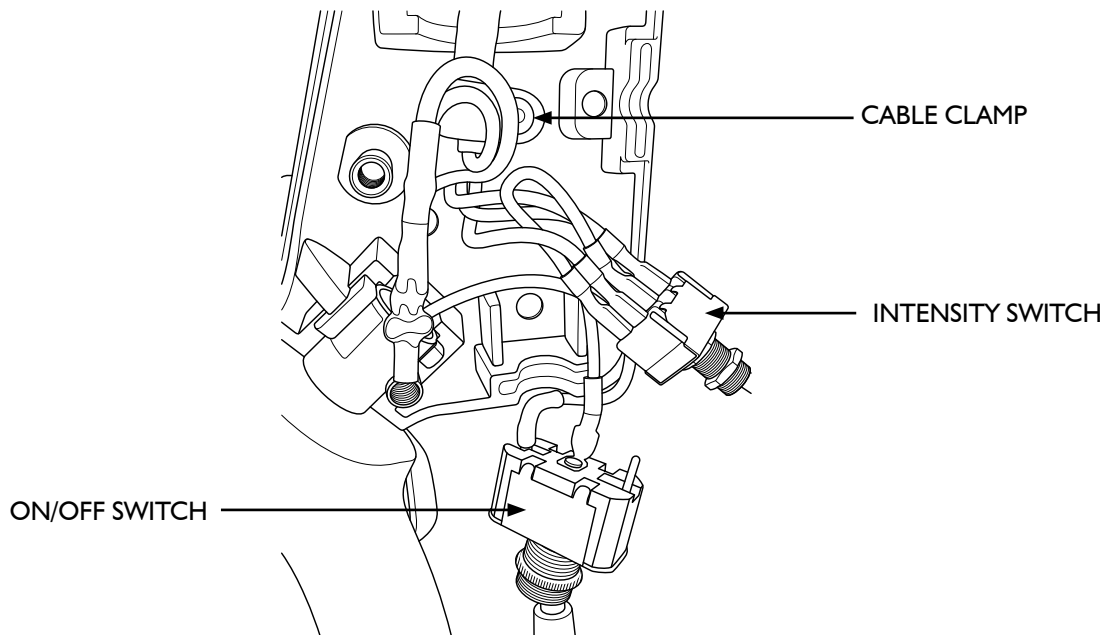

FIGURE 4
3. Using wire cutters (**Figure 4**):
4. Remove the cable clamp from inside of the housing. **Figure 4.**